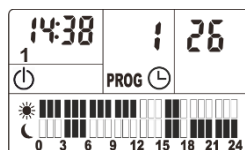

Fig.5
7. Program every hour from 00 to 24 hours. (Fig.5)